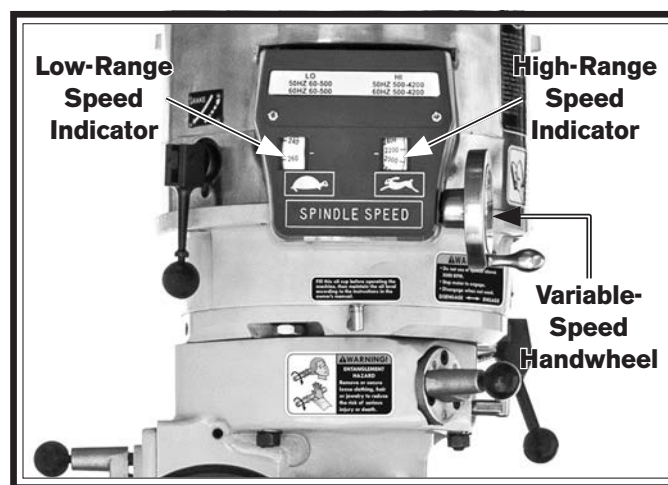

Figure 43. Variable-speed handwheel and speed indicator windows.
3. Slowly rotate variable-speed handwheel (see **Figure 43**) until desired speed is displayed in speed indicator window for speed range selected.